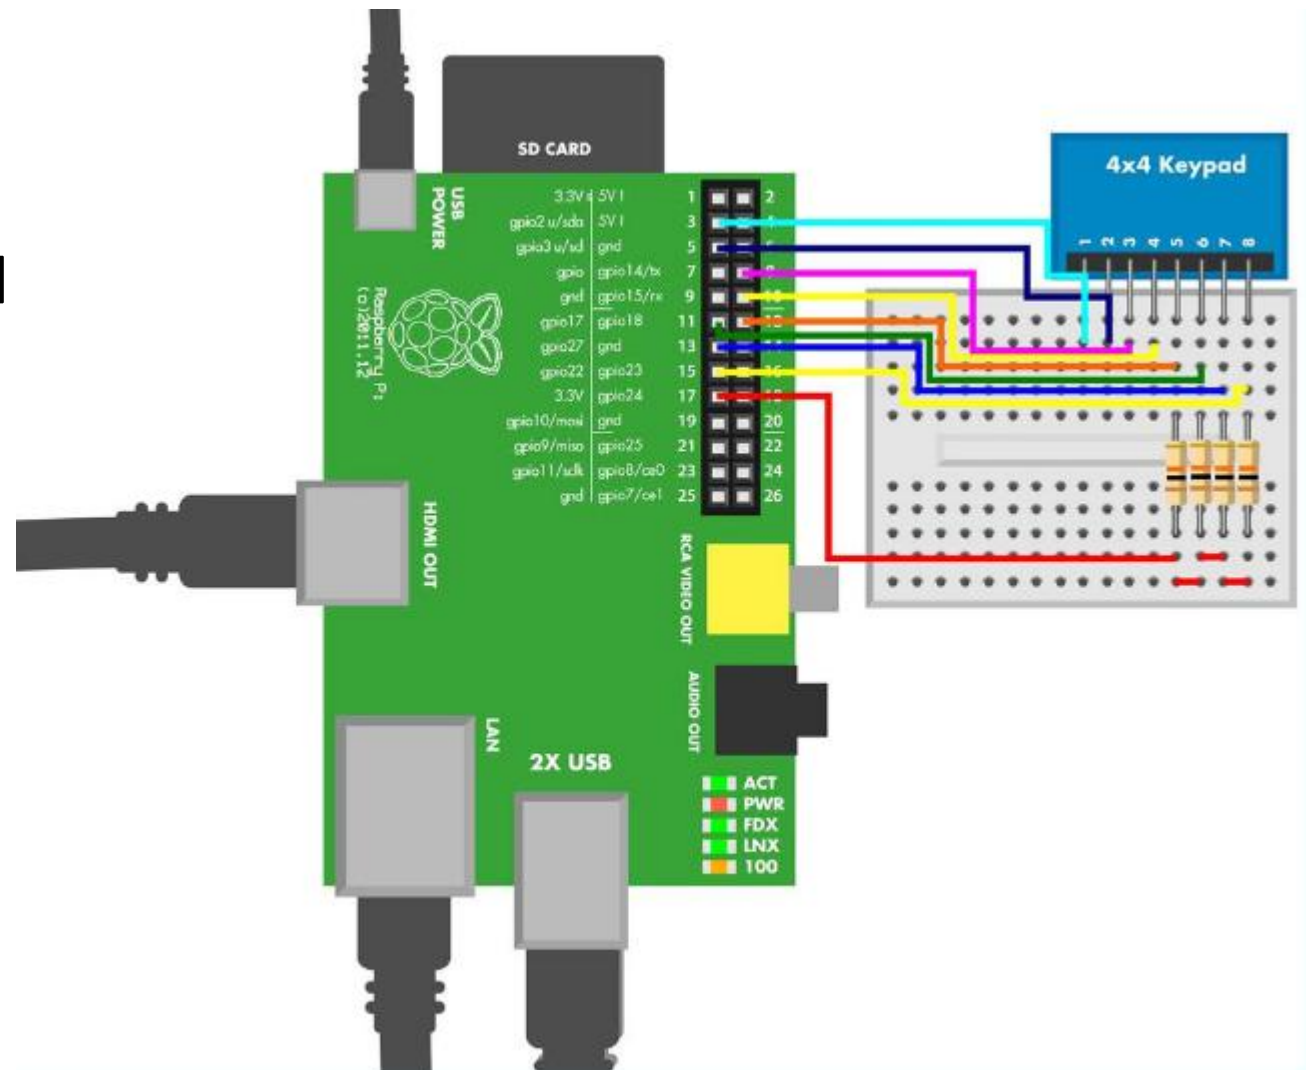

Figure 9-3. Keypad connected to Raspberry Pi
- Figure 9-3 shows the wiring diagram for Raspberry Pi.
#检测行是否为LOW.其他行被上拉电阻上拉为HIGH,如图9-3所示。